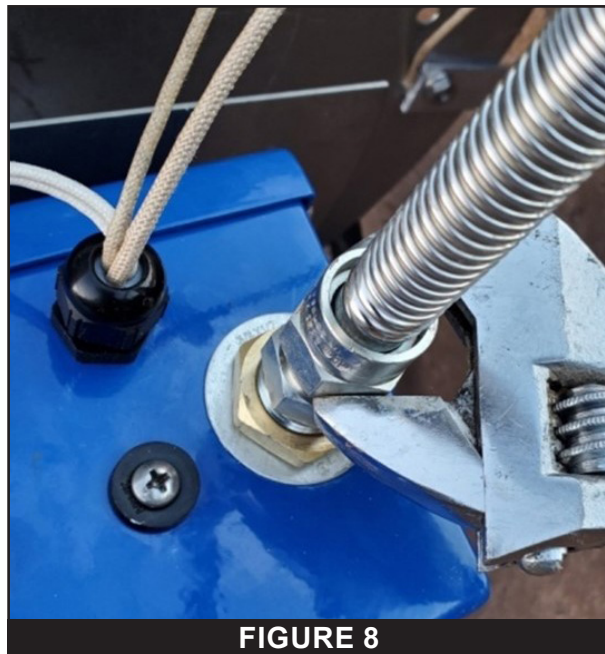

FIGURE 8
4. Use an adjustable wrench to tighten the hose to the fittings. Ensure they are tight and do not leak gas. See **FIGURE 8**.